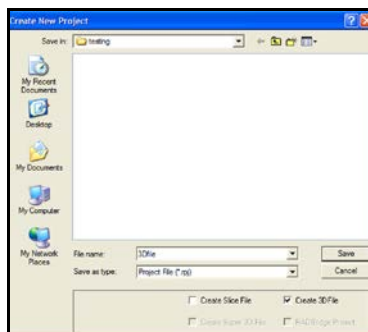

Figure 134: Create New Project dialog. Enter a filename and check Create 3D File as shown.
- The dialog shown in Figure 134 will appear. Enter a project filename and check Create 3D File. The file will be saved into the Source Directory selected through View > Customize at start of session.